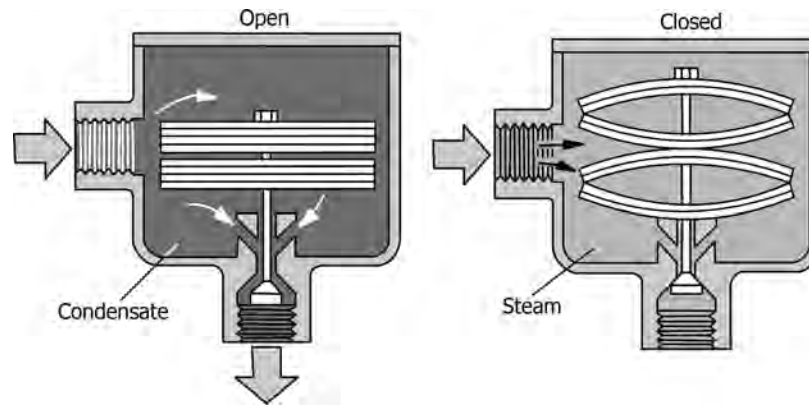

FIGURE 12.22 Operation of a bimetallic steam trap with a two-leaf element. (Courtesy: Spirax Sarco.)
- To overcome the above constraints, a two-leaf design is developed to make the trap operate at different temperatures as shown in Figure 12.22.